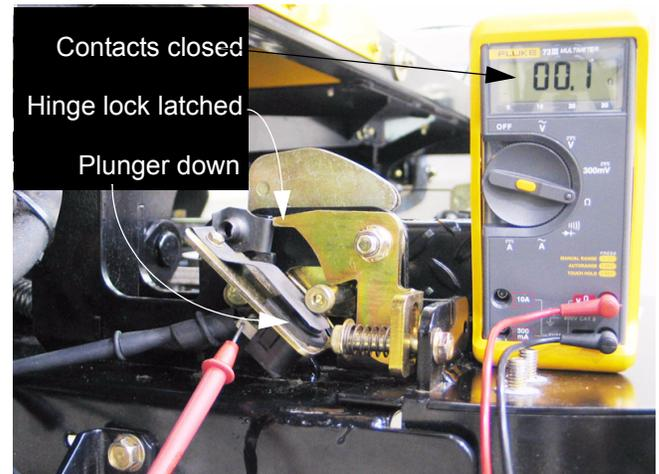

Figure 11.16
11.16. The switch contacts are normally open (N.O.), meaning that the internal contacts are broken when the plunger is extended. See Figure 11.16.